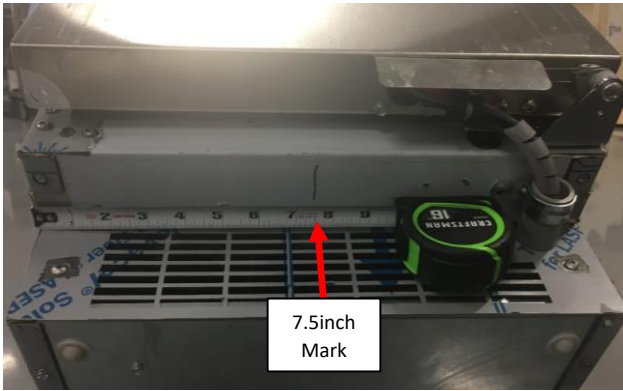

Figure 102a: 7.5" mark/center of the Fridge.
- i. Mark 7.5inches from one edge of the Fridge on the bottom surface of the Overhang (below the plunger the switch). **See Figure 102a.**